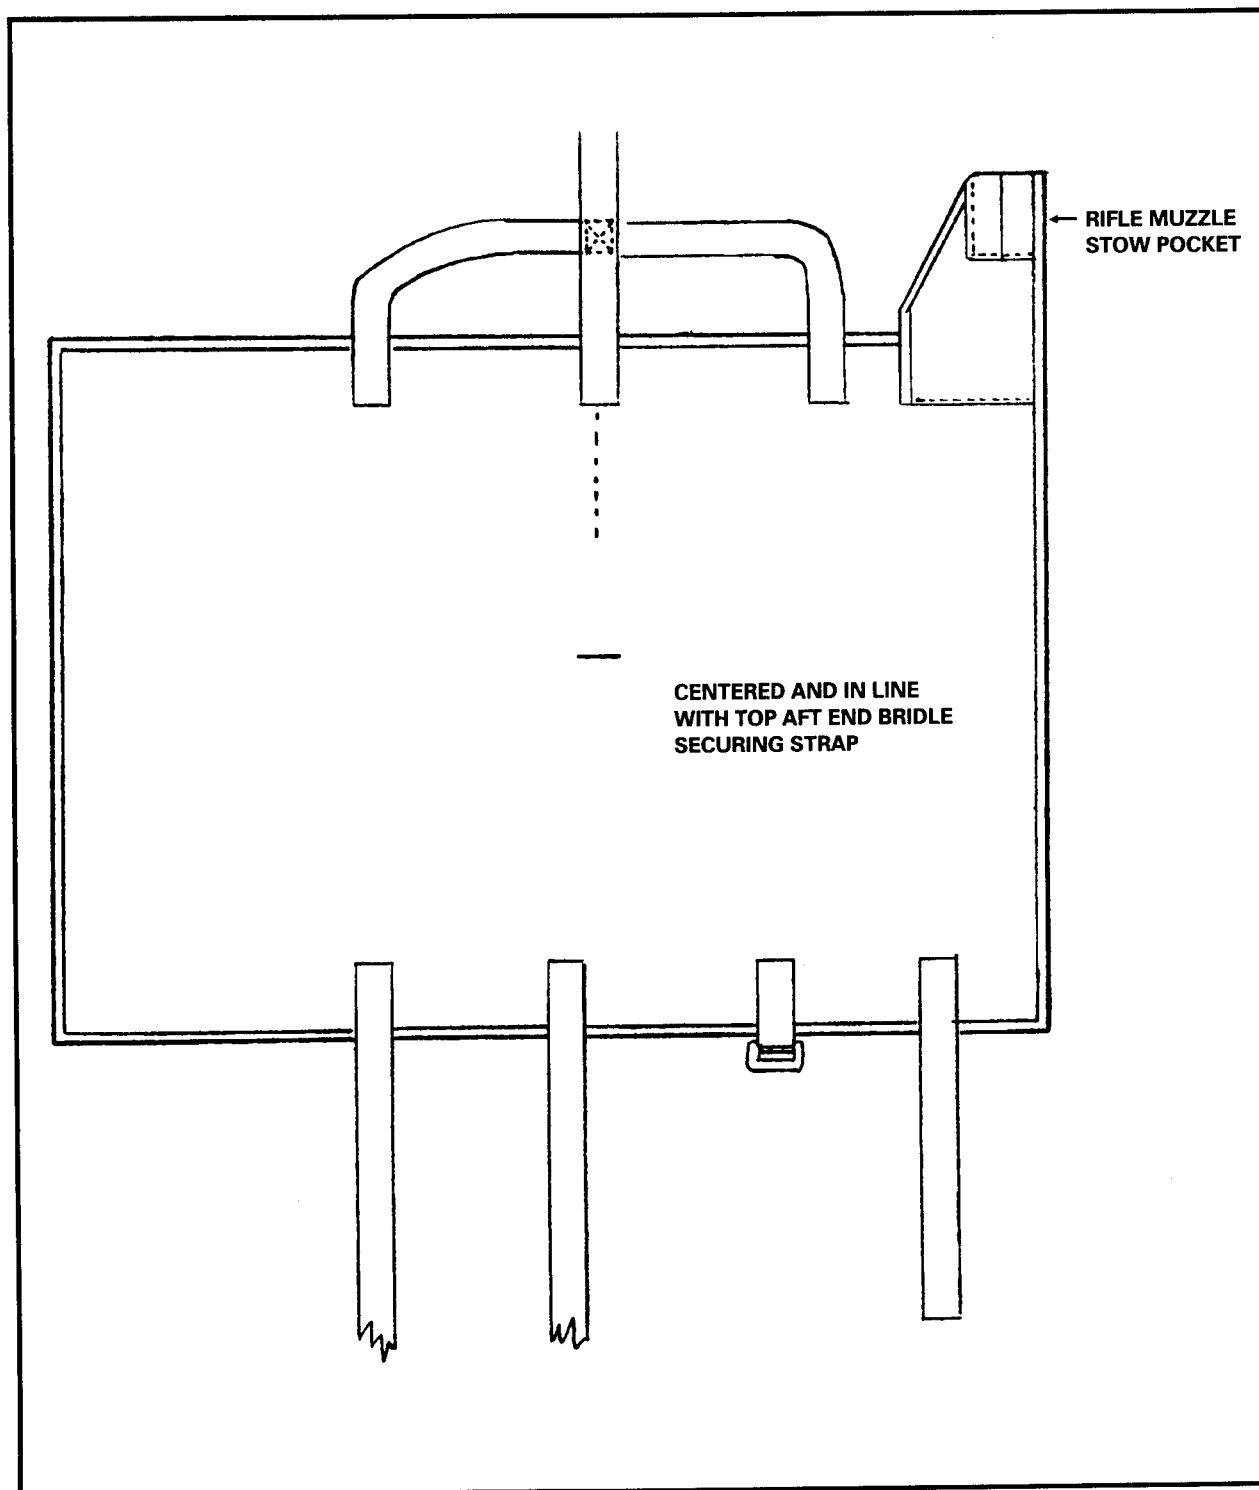

Figure 12-61. Marking the center of the DMJP.
a. Lay the DMJP for modification flat, felt side up. Using a suitable marker, make a mark at the center of the pack and in line with the aft end bridle securing strap at the top of the DMJP (Figure 12-61, page 12-74).